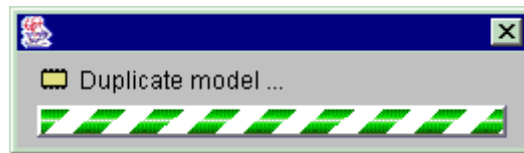

Figure 96 : Bar graph during duplication
- ◆ A bar graph (Figure 96) indicates that the component is currently duplicated; a copy of the model is then created with the extension `_copy`.